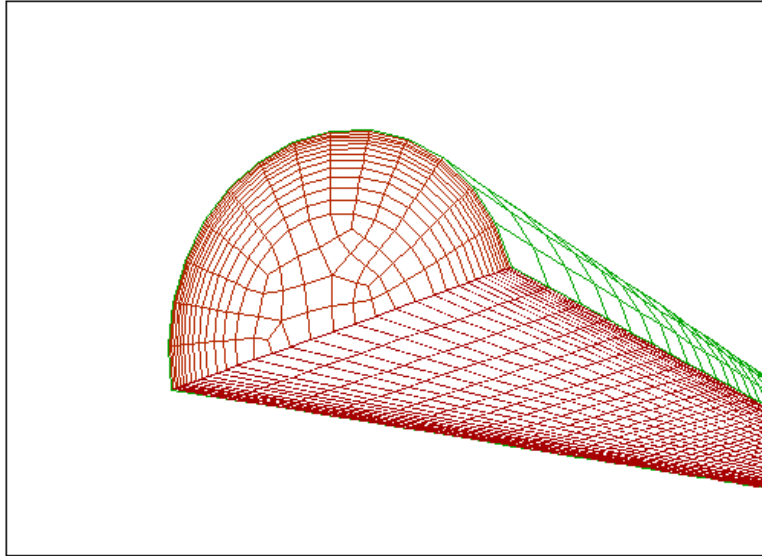

Figure 4.3: Grid Display—Zoomed-in View
- (d) Zoom-in the graphics window to get the display as shown in Figure 4.3.